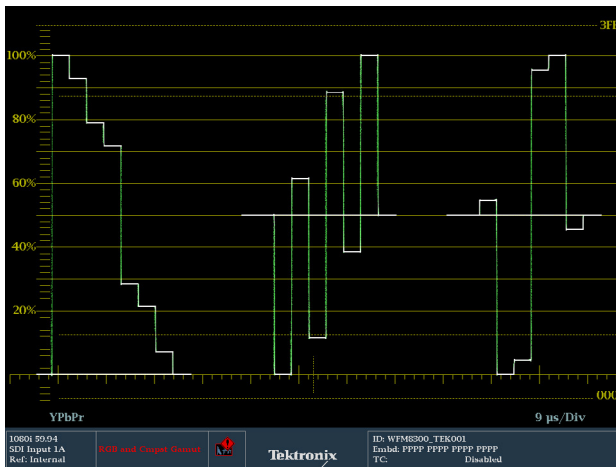
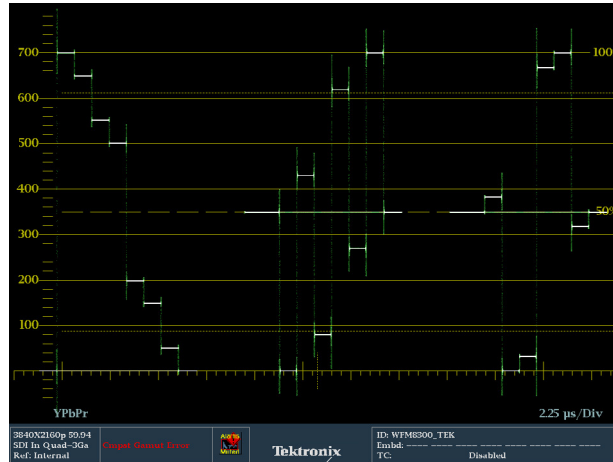
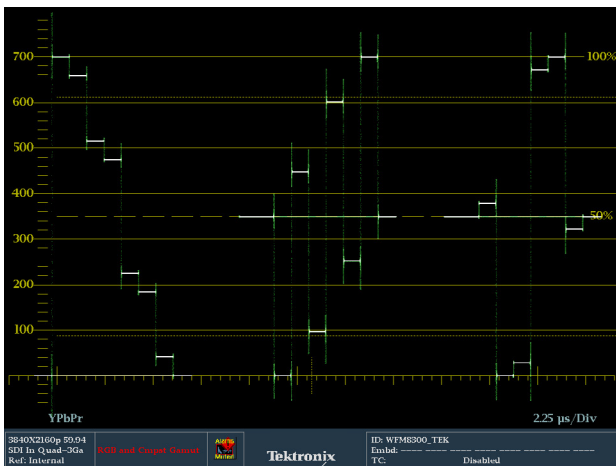
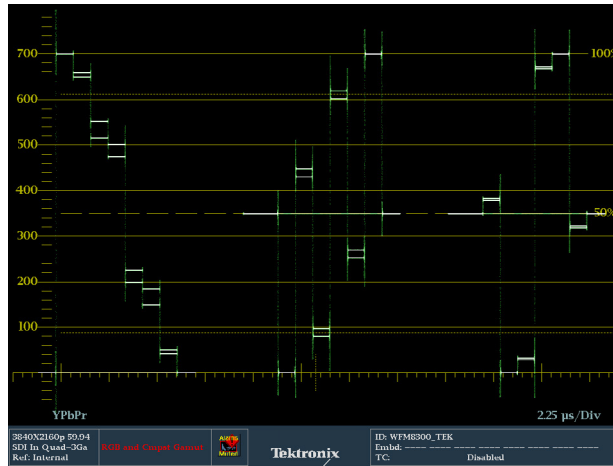

FIGURE 3-13. HD 100% color bars YPbPr parade, Rec. 709.
FIGURE 3-14. UHD 100% color bars YPbPr parade, Rec. 709.
FIGURE 3-15. UHD 100% Color Bars YPbPr parade, Rec. 2020.
FIGURE 3-16. UHD 100% Split Field Color Bars with both 709 and 2020 colorspaces in YPbPr Parade display.
Firstly compare the HD signal in Figure 3-13 to the UHD signal in Figure 3-14. Notice the spike transitions in the UHD 100% color bar waveform display. This is normal and due to the fact that no video filtering is applied to each link. This allows the quad links to be seamlessly stitched together to form the 4K/UHD image otherwise a thin black line would be seen between the links.
You can compare the difference in levels between Rec. 709 (Figure 3-13 (HD), Figure 3-14 (UHD)) and Rec. 2020 (Figure 3-15 (UHD)). There are slight difference in the video levels as shown in Figure 3-16 which is a split field 100% color bar signal with both 709 and 2020 color spaces. Care has to be taken to chose the correct colorspace.